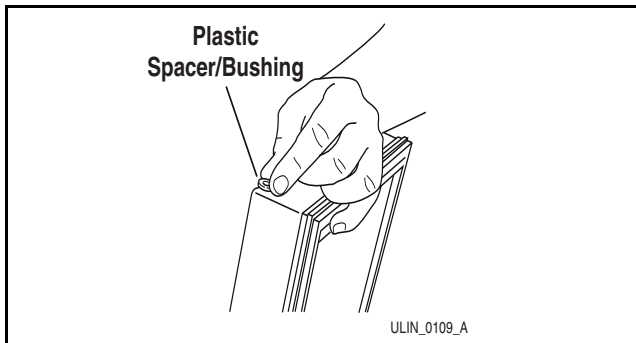

Figure 19
7. Relocate plastic spacer/bushing (**Figure 19**) on top and bottom of door to opposite side. Clean out bushing hole in door bottom with a screwdriver if necessary.